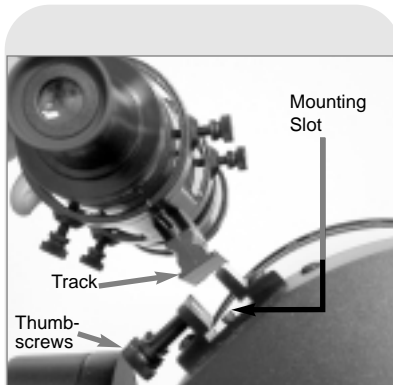

Fig. 11: Viewfinder Assembly.
1. Slide the track on the bottom of the viewfinder into the slot in the viewfinder mounting assembly. See **Fig. 11**. To secure the viewfinder to the mounting assembly, tighten the two thumbscrews (**Fig. 11**) to a firm feel only.